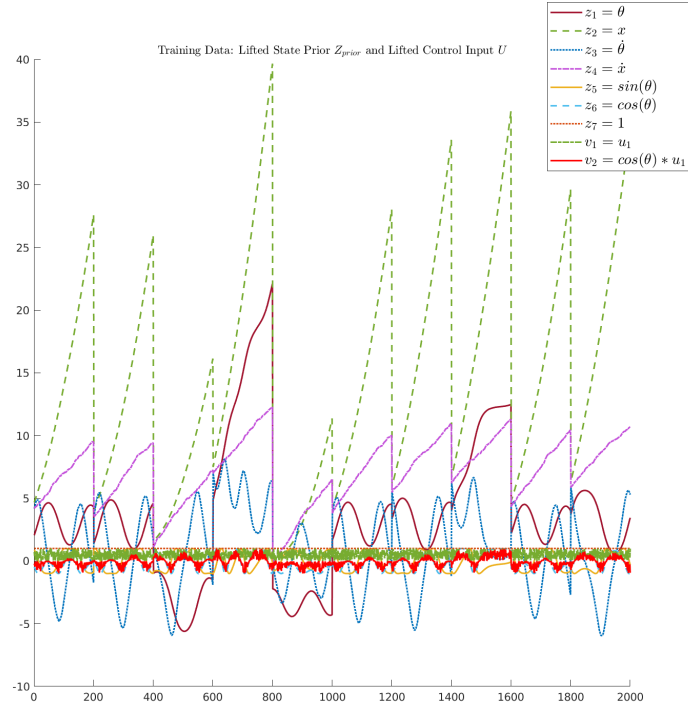

Figure 2: This image depicts the lifted state prior variables $z(x)$ and the lifted control variables $v(u)$.
- DLO Manipulation (**IROS**): Last week, I was mostly busy with assignments and exams. I was able to implement MPC-Koopman controller for an inverted pendulum system. For training purposes, I am able to generate $nTrials$ test runs with a length of $nSamps$ given generated random input and initial conditions. Moreover, lifted state and control input variables are depicted in figures 2 and 3. This inverted pendulum example is based on python implementation for [1].